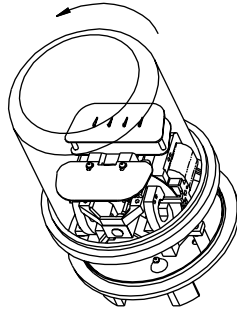

Figure 9. Removing Cover
1. Unscrew the cover on the meter in a counter-clockwise direction. See Figure 9.